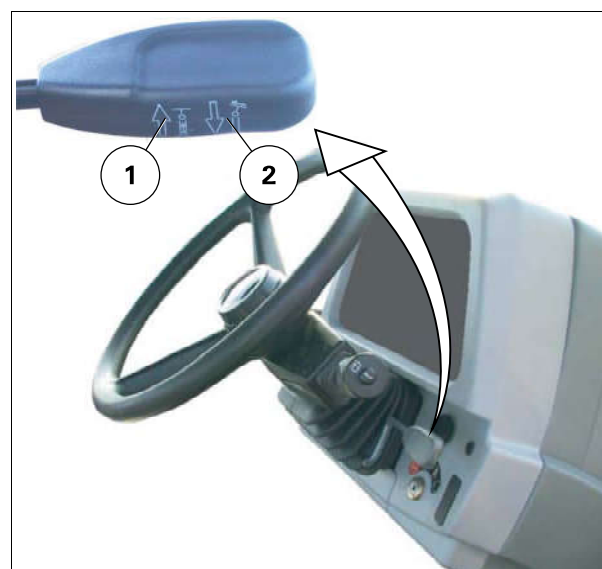

Fig. 7.
| (4) | Steering wheel adjustment fig. 7 | (10) | Hazard warning lights and control switch. When this button is pressed, the front and rear flashing lights come on together with the corresponding indicator lights on the instrument panel. |
The steering wheel tilt and height can be adjusted. Both adjustments are made using a single lever fig. 7: